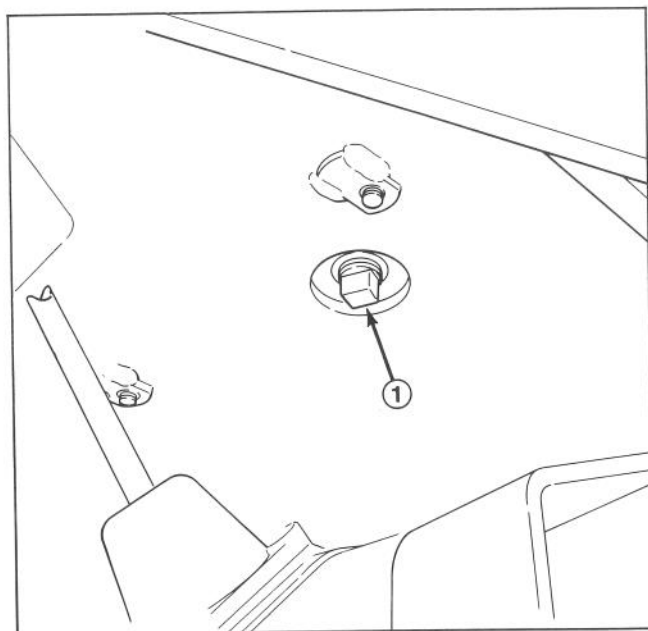

Figure 31
1. Place an oil drain pan below the drain plug on bottom of crankcase. Clean area around drain plug (Fig. 31).